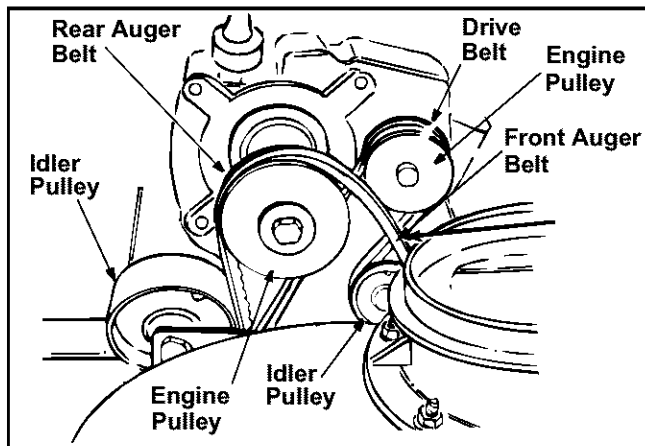

Figure 23
- Roll the front and rear auger belts off the engine pulley. See Figure 23.
- Pull idler pulley up, and lift belt off engine pulley and friction wheel disc. See Figure 23.